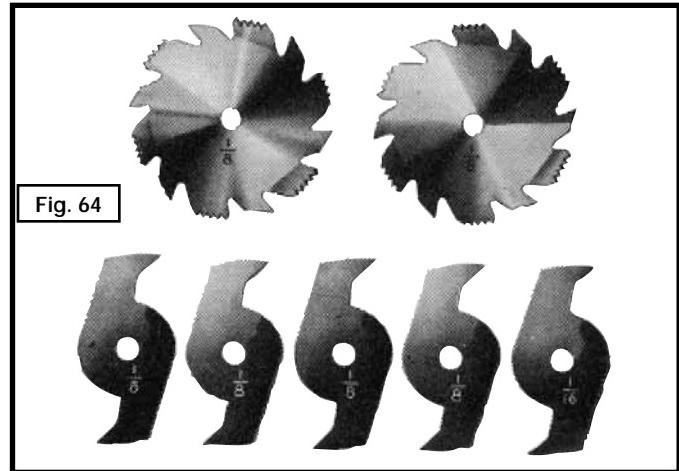

Fig. 64
Add a wood facing (A) Fig. 64 to one or both sides of the rip fence when you perform special operations (moulding cutterhead, etc.). Depending on the fence, attach the wood facing o the fence either with wood screws through holes drilled in the fence, or with two clamps. For most work, 3/4" stock is suitable, although an occasional job may require 1" facing.